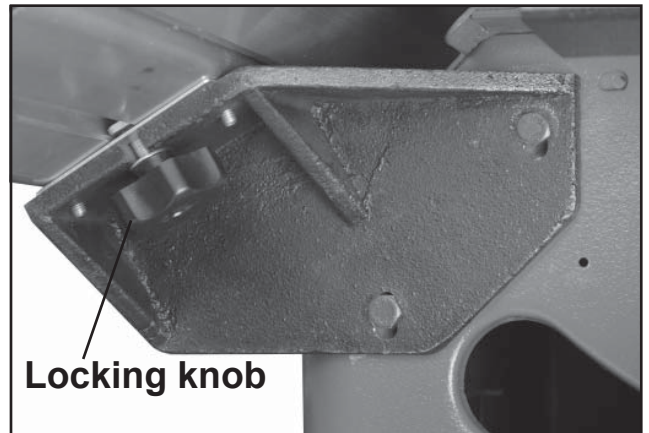

Figure 21
3. If the square does not clear the back edge of the leading tooth on the saw blade, loosen the two locking knobs under the slide table. Move the table support forward or backwards until the alignment is correct. (A-Fig. 21)